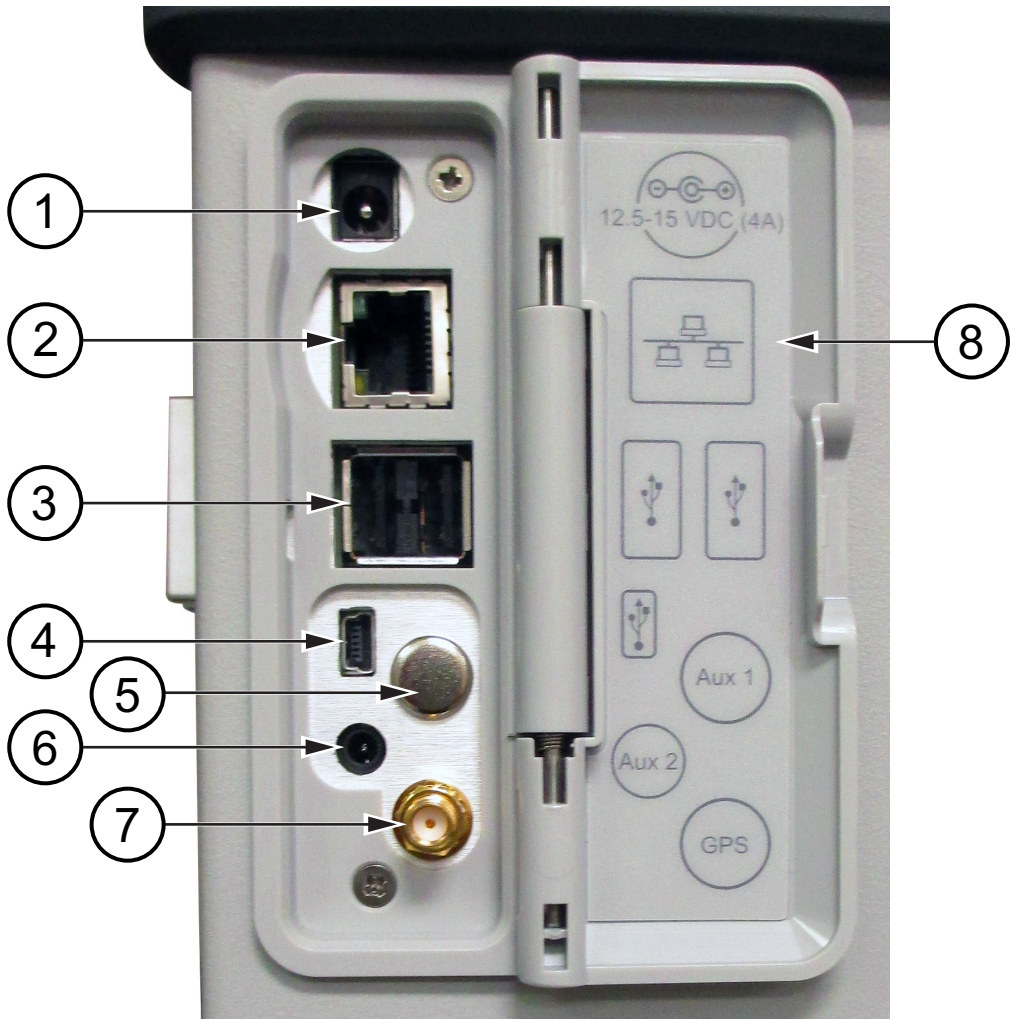

Figure 2-8. PIM Master Side Panel Overview
External Power (item 1 in Figure 2-8)
LAN Connection (item 2 in Figure 2-8)
USB Interface – Type A (item 3 in Figure 2-8)
USB Interface – Type Mini-B (item 4 in Figure 2-8)
GPS Antenna Connector (Option 31) (item 7 in Figure 2-8)